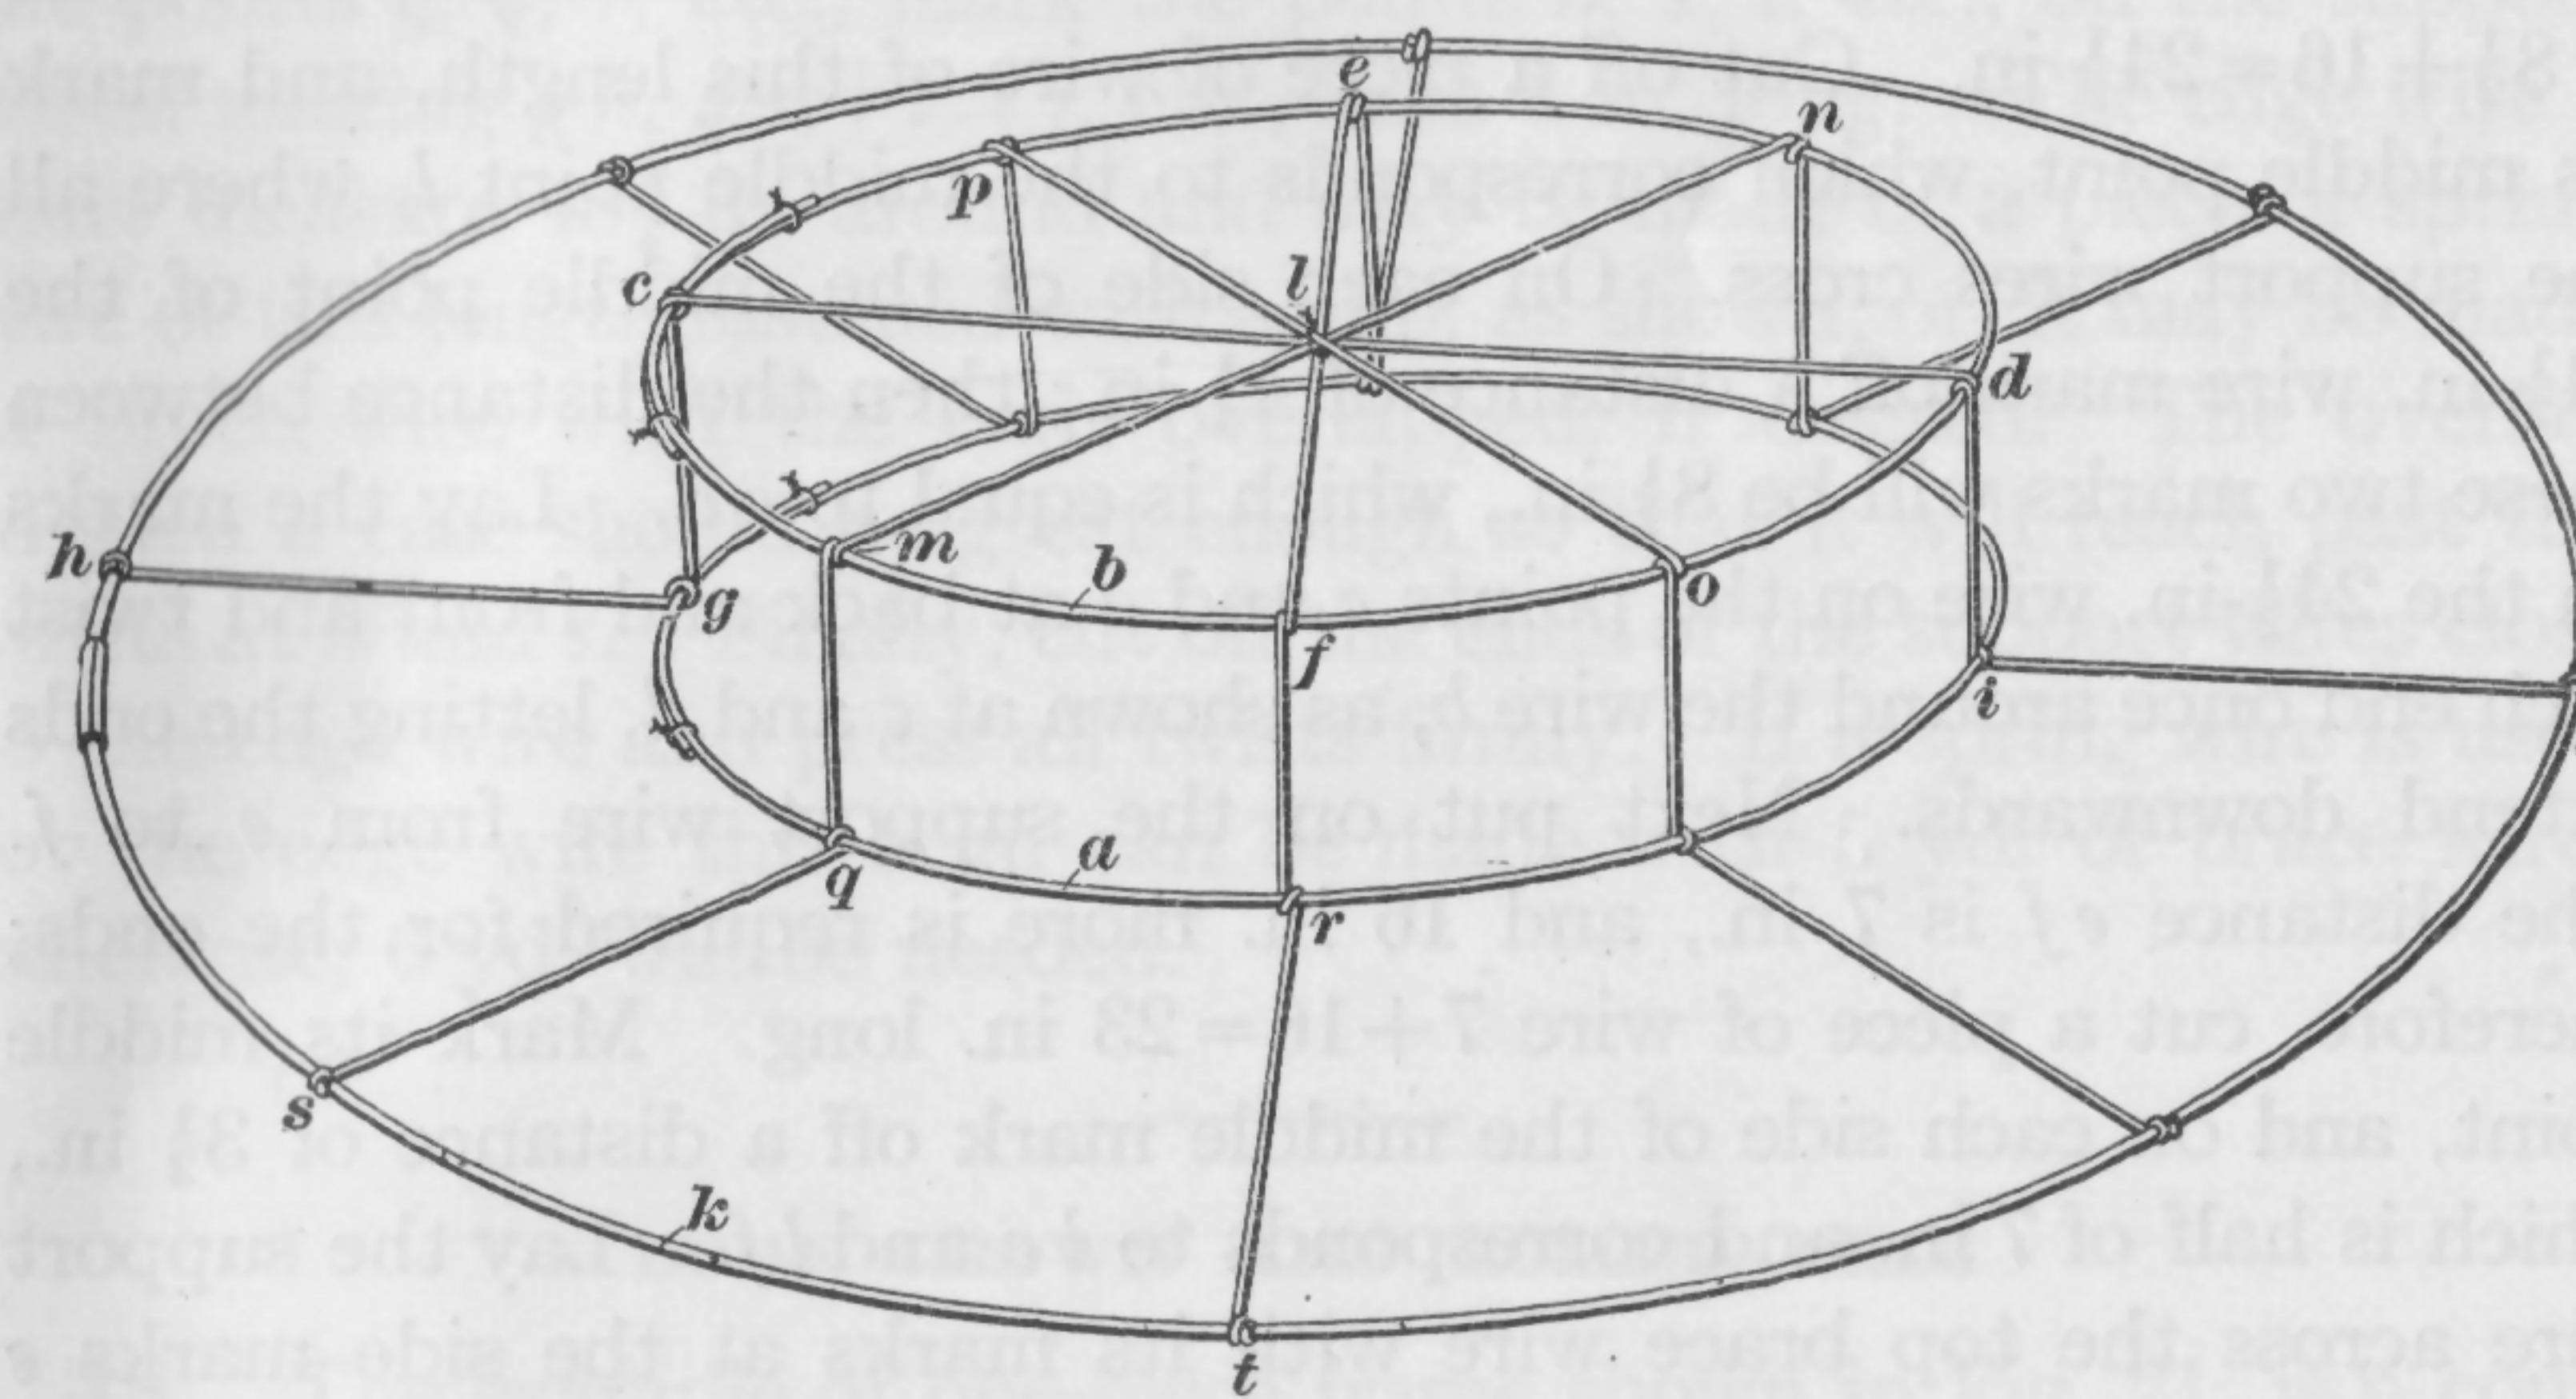

FIG. 20
**34.** Another example of one-piece construction is the frame of the sailor shown in Fig. 20. The crown is of the box shape and is
**35.** The length  $c d$ , Fig. 20, is  $8\frac{1}{2}$  in., and the ends require 16 in. more, according to the calculations given in the preceding article; hence, the total length required for the front-to-back support wire is  $8\frac{1}{2}+16=24\frac{1}{2}$  in. Cut off a piece of wire of this length, and mark its middle point, which corresponds to the middle point  $l$ , where all the support wires cross. On each side of the middle point of the  $24\frac{1}{2}$ -in. wire mark off a distance of  $4\frac{1}{4}$  in.; then the distance between these two marks will be  $8\frac{1}{2}$  in., which is equal to  $c d$ . Lay the marks on the  $24\frac{1}{2}$ -in. wire on the points  $c$  and  $d$  at back and front and twist each end once around the wire  $b$ , as shown at  $c$  and  $d$ , letting the ends extend downwards. Next put on the support wire from  $e$  to  $f$ . The distance  $e f$  is 7 in., and 16 in. more is required for the ends; therefore, cut a piece of wire  $7+16=23$  in. long. Mark its middle point, and on each side of the middle mark off a distance of  $3\frac{1}{2}$  in., which is half of 7 in. and corresponds to  $l e$  and  $l f$ . Lay the support wire across the top brace wire with its marks at the side marks  $e$  and  $f$  on the top brace wire and twist each end of the support wire once around the brace wire, as shown.
**36.** The length  $m n$ , Fig. 20, of the diagonal support wire is  $7\frac{3}{4}$  in., and 16 in. is needed for the ends, so that its total length must be  $23\frac{3}{4}$  in., or almost 24 in., and the other diagonal support wire is the same. So cut off two lengths of wire, each 24 in. long, and mark the middle of each. Now lay one of these 24-in. wires across the top brace wire from  $m$  to  $n$  with the middle point of the support wire at  $l$ , and twist each end once around the top brace wire. Care should be taken not to bend the top brace wire out of its oval shape when making these twists. Lay the other 24-in. wire across from  $o$  to  $p$
**37.** Now take the tape measure, or a paper gauge of correct length, and from the twists  $c, m, f, o$ , etc., Fig. 20, mark off a length of 2 in. downwards on each support wire, thus locating the points  $g, q, r$ , etc., at which the head-size wire must be attached to produce a crown 2 in. high. Bend the support wires upwards and outwards at these points. Then set the head-size wire  $a$  into the bends, with the overlap at the back, and twist the support wires around the head-size wire at the eight equally spaced points  $g, q, r$ , etc., giving one full turn to each. Next mark off the width of the brim on the support wires. Use a paper gauge 4 in. long, or a tape measure, and from the points  $g, q, r$ , etc., mark the points  $h, s, t$ , etc., on the support wires, making  $g h, q s, r t, i j$ , etc., each 4 in. long. The edge wire  $k$  must measure  $48\frac{1}{2}$  in. around and may be made of a piece of spring wire of this length fastened with a clip, as shown; or, it may be made of brace wire with the ends overlapped, if desired. The overlap in such a case should be great enough so that it will reach past the twists at  $h$  and  $s$ . Finally, cut off the ends of the support wires close to the edge wire and press all twists firmly. If a spring wire is used for the edge wire this brim can be made with 5 yd. of brace wire; otherwise, 6 yd. will be needed.